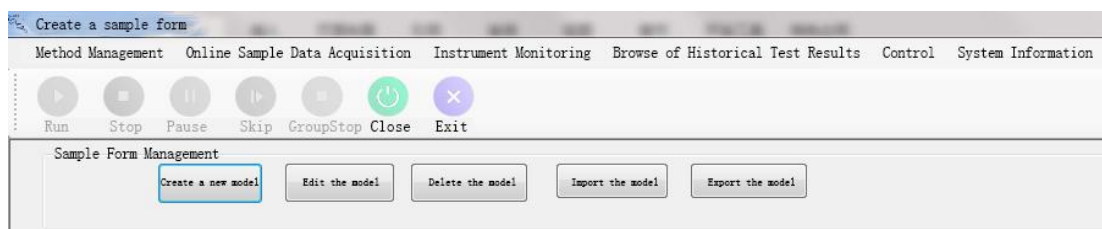

Figure 26. Creates a Sample Form
(1) Click "Method Management", "Sample Formulation", "Create a New Form" in the software menu in turn as shown in Figure 26.